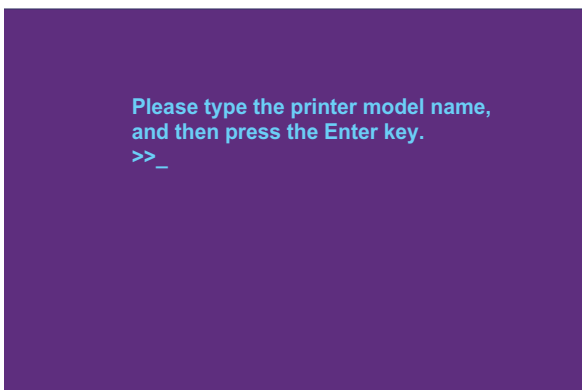

Figure 5-10. Model Name Input Screen
- **If you mistype the model name, the program will automatically return to the model name input screen (Figure 5-10).**